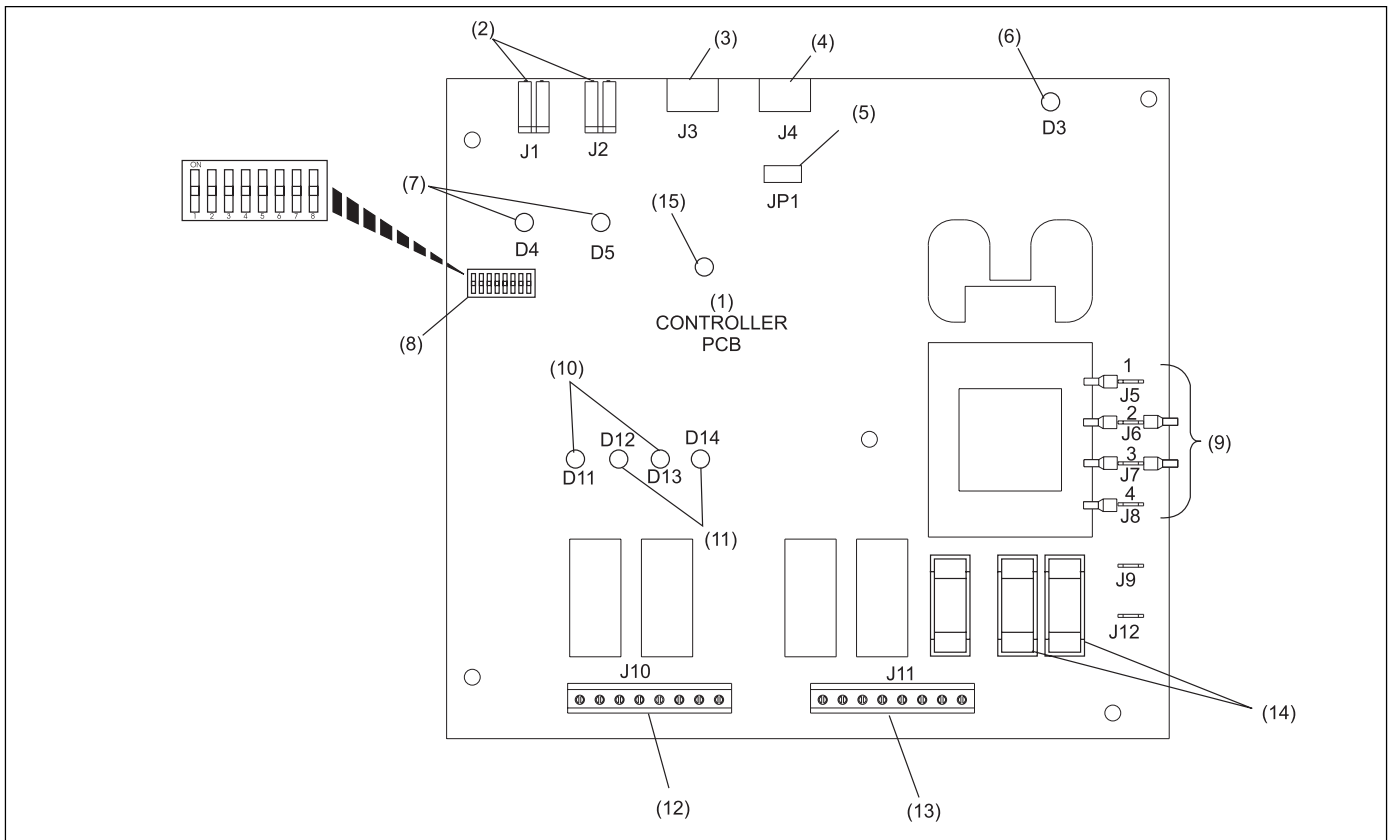

Figure 2. Automated Bumper Controller PCB
The emergency up switch mounted on the ball return capping, overrides any information received from the System Controller or I/O PCB causing the automated bumper controller to raise the gutters. Refer to *Figure 2*.
- *Communication In (J3)* - Input for communication entering the PCB. On the first lane pair for Stand-Alone configurations, this information comes from the system controller located at the control desk. Refer to *Figure 2*. For additional lane pairs in a Stand-Alone system the cable comes from the prior lane pair bumper controller. Refer to *Communications Out (J4)*. For installations with Frameworkx scorers, the input data to J3 is sent from the I/O PCB - J2.
Several LEDs are located on the controller PCB to indicate various operating functions/conditions. Refer to *Figure 2* for LED locations on the controller PCB. The LED functions are:
There are three fuses located on the controller PCB. Refer to *Figure 2*.